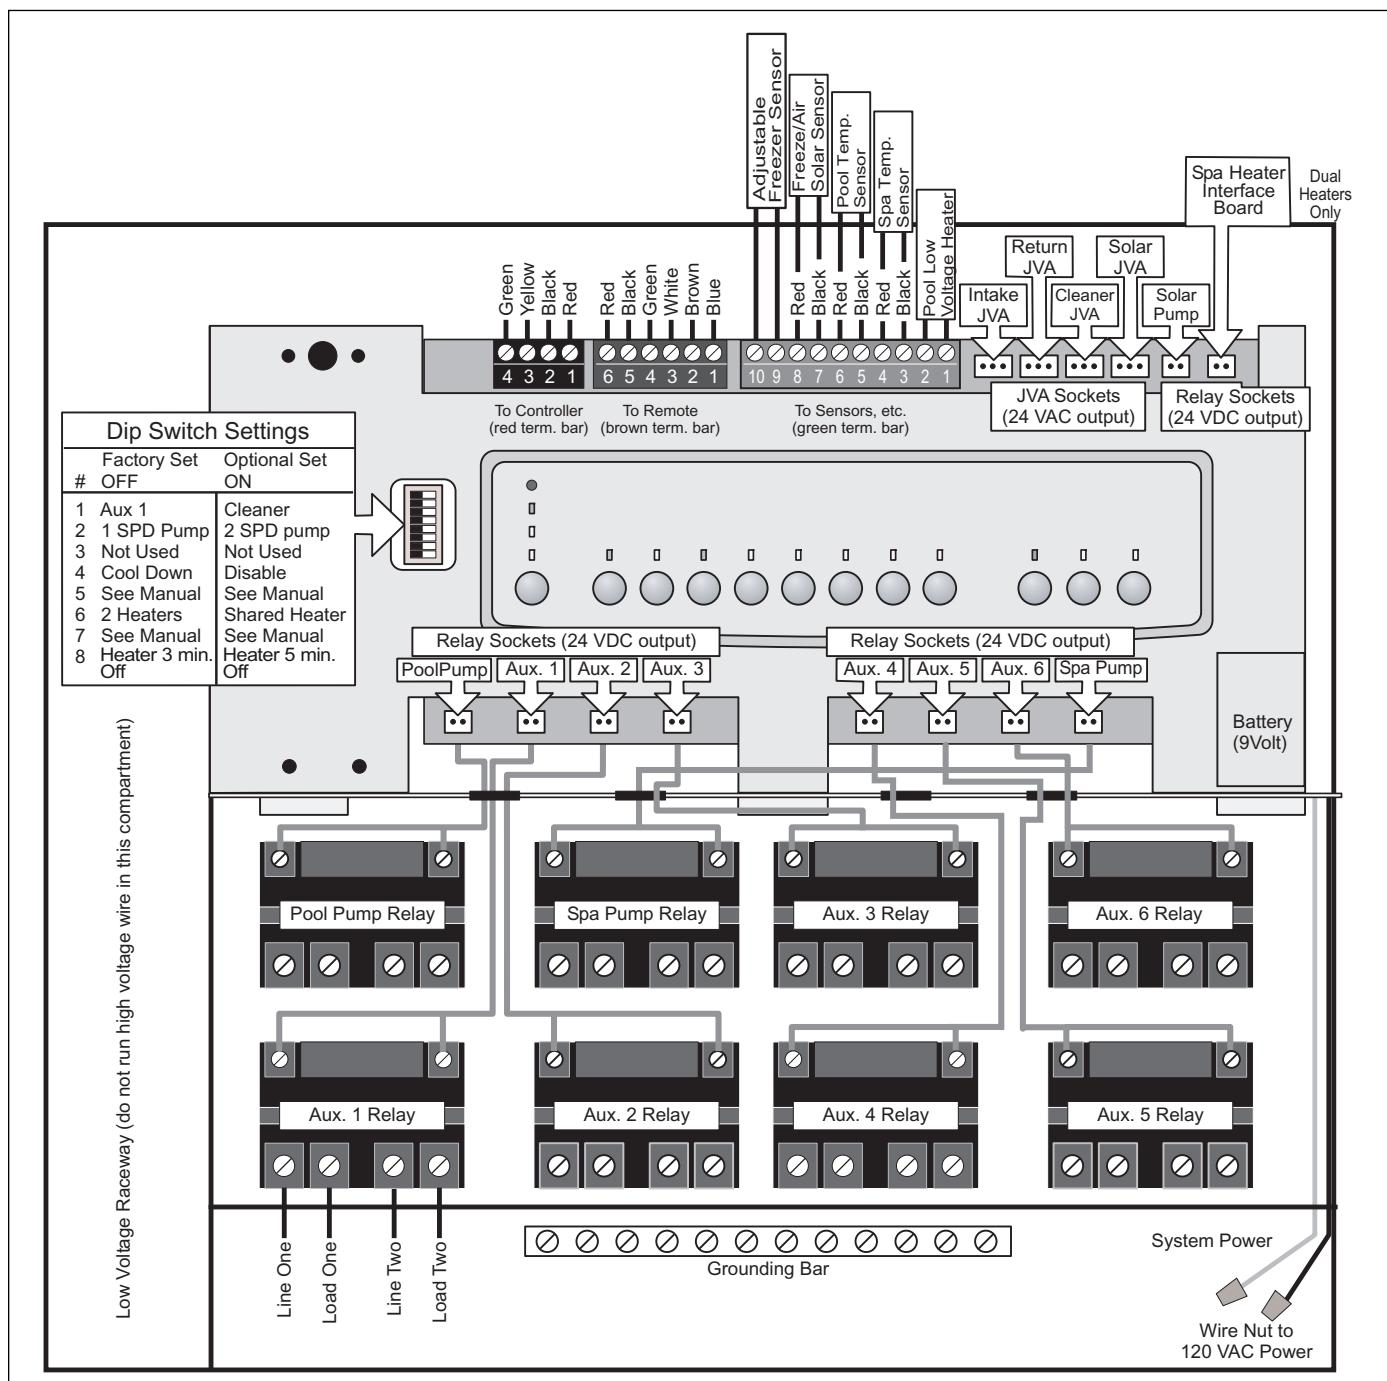

Figure 5. Wiring Diagram
**NOTE** When connecting to the AquaLink RS, plug the shared heater JVA valve into the JVA Socket on Power Center Board, and turn DIP Switch 6 to the ON position. See wiring diagram in Section 4, Figure 5.
Connect the high voltage relay plugs into their appropriate sockets according to the wiring diagram located on the inside of the Power Center door (see Section 4, Figure 5).
See the wiring diagram in Figure 5 to set all DIP Switches for optional operation features.